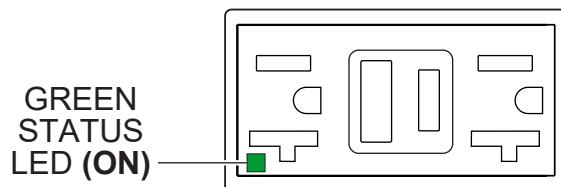

Figure 134. GFCI Receptacle (ON)
3. Verify that the **status LED** on the corresponding GFCI receptacle (Figure 134) is **ON (GREEN)**.